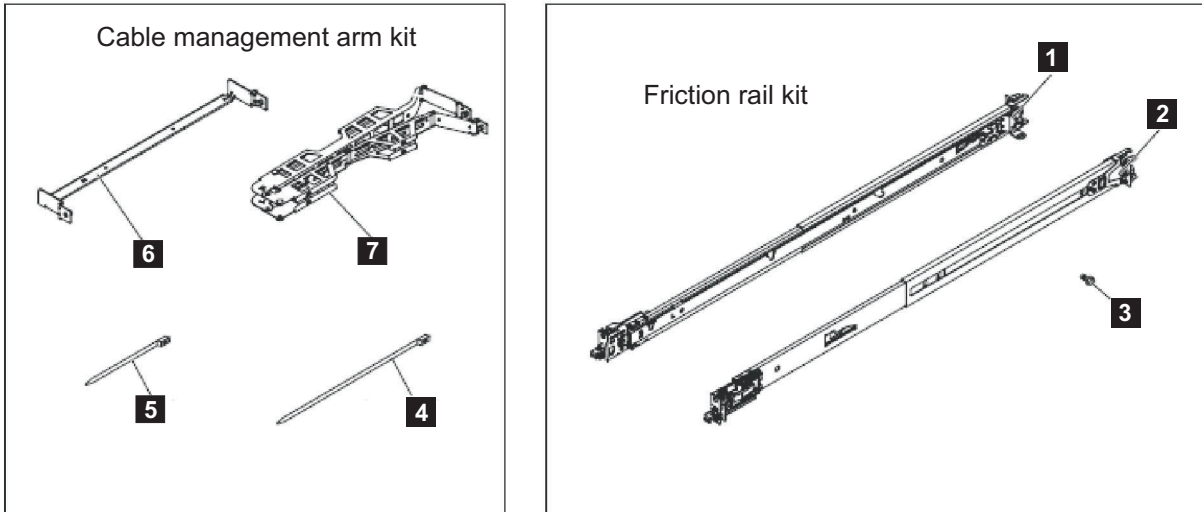

Figure 20. SAN Volume Controller 2145-CG8 cable-management arm, support rails, and associated parts
Figure 20 on page 23 shows the items that you need to install the SAN Volume Controller 2145-CG8 node in a rack.
1. Verify that you have all the items that you need for installing the support rails and that you have identified the front of each rail, as shown in Figure 20.